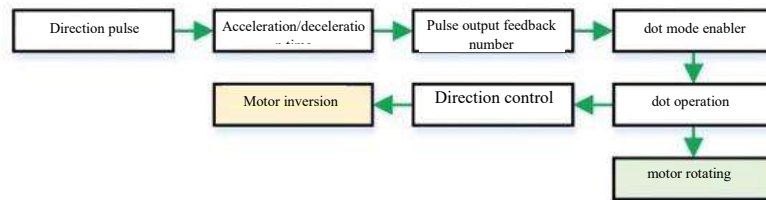

Figure 6-3-3 Dynamic mode configuration process
- Figure 6-3-3 shows the process for configuring the control mode